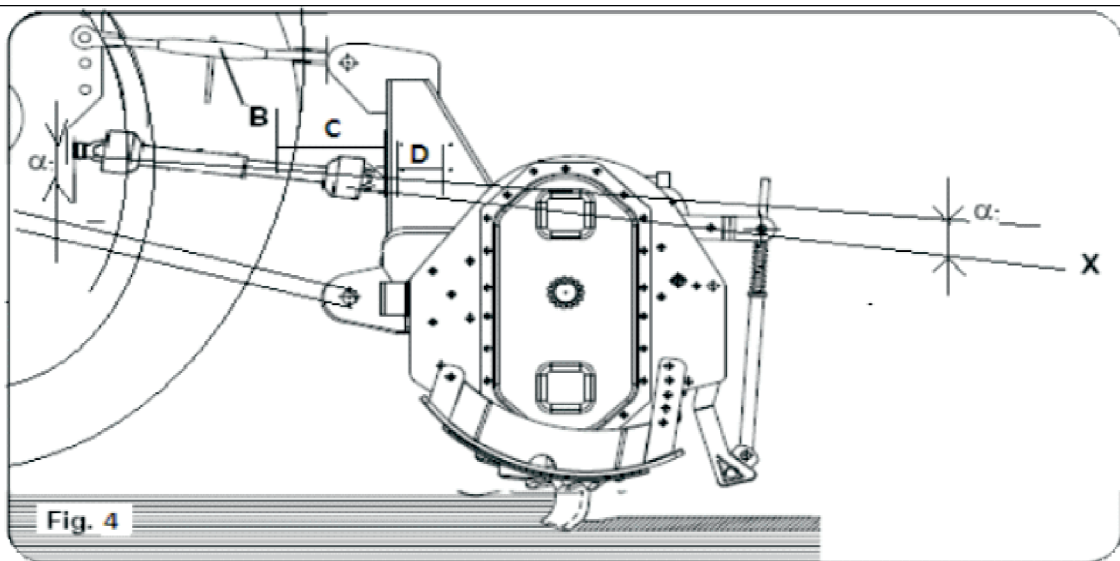
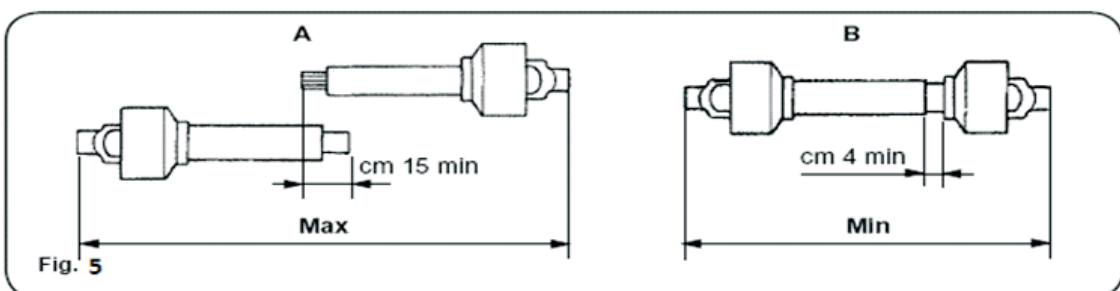

Fig. 4
Fig. 5
- The two angles (Fig. 4) formed by the fork axes and the axis of the sliding tubes will be equal and must not, exceed 10°
- The sliding tubes (C Fig. 4) must overlap by at least 15 cm (Fig. 5).
- The two tubes of the drive line shaft must not fully overlap. There must always be a safety travel (D Fig.4) of at least 4 cm.
- The angles (Fig.4) of the drivelines must not exceed 40° (Fig. 4). If these two results are not obtained:
- When the Cardan shaft is fully extended, the two tubes must overlap by at least 15 cm. When fully inserted, the minimum play must be 4 cm. (Fig. 5).